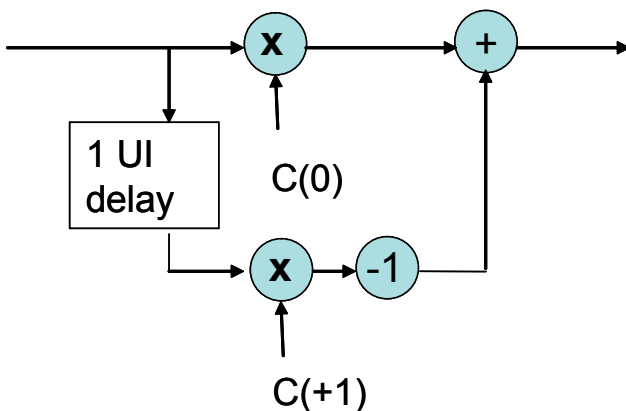
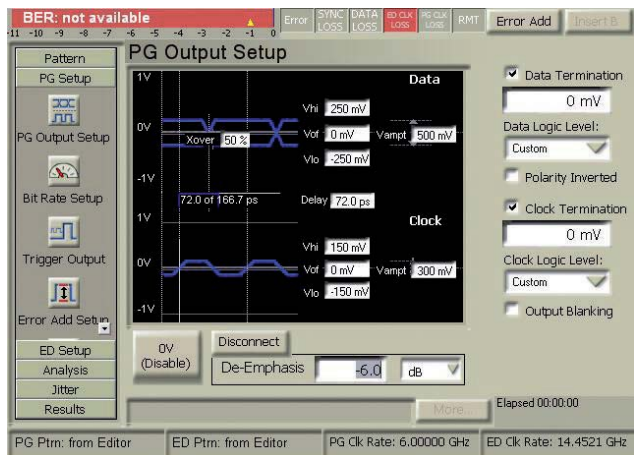

Figure 6: Diagram of the N4916A two-tap de-emphasis when programming a negative de-emphasis value
Figure 8: Negative programming value for the de-emphasis (-6dB)
The Agilent N4916A allows de-emphasis to be programmed as a negative value, as shown in figure 8. As shown in figure 6, the un-delayed tap is inverted. C(+1) is controlled by the N4903A levels and C(0) is controlled by the de-emphasis value.